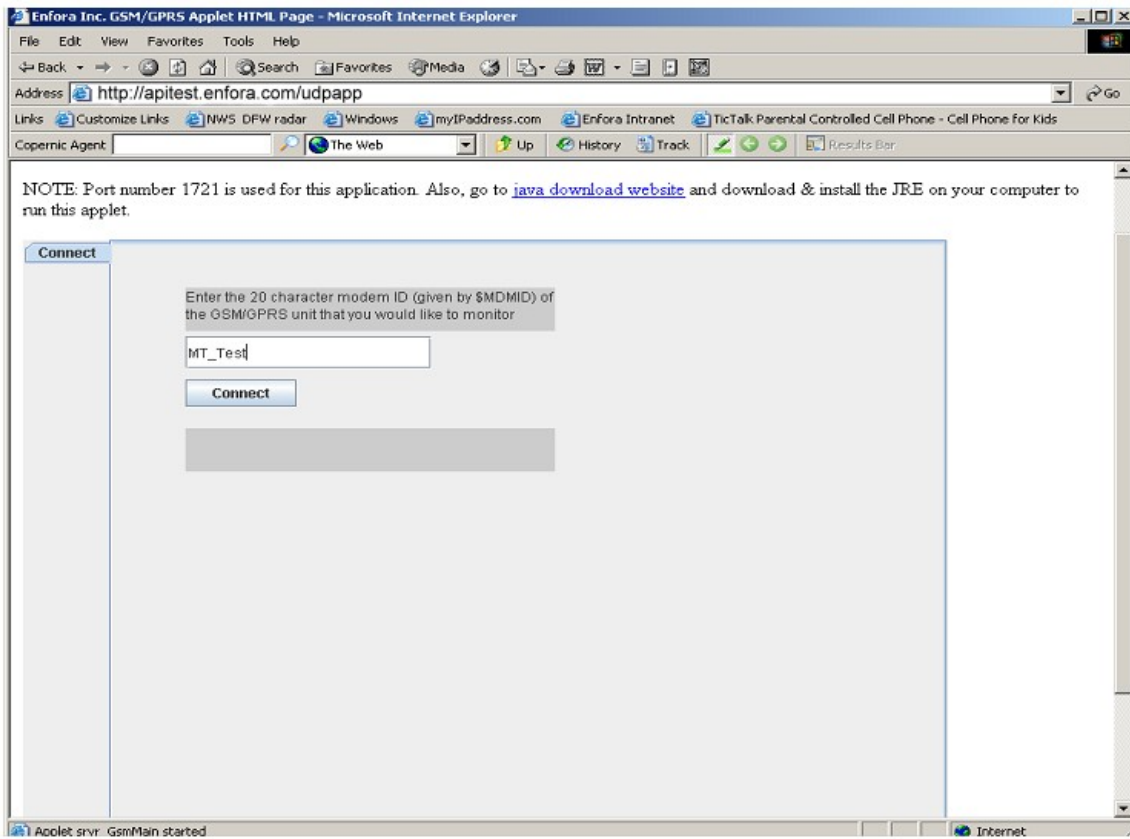

Figure: 23 - Verify Server Connectivity
2. Enter the name used in the MDMID command in the box. Select Connect See Figure: 23 - "Verify Server Connectivity"